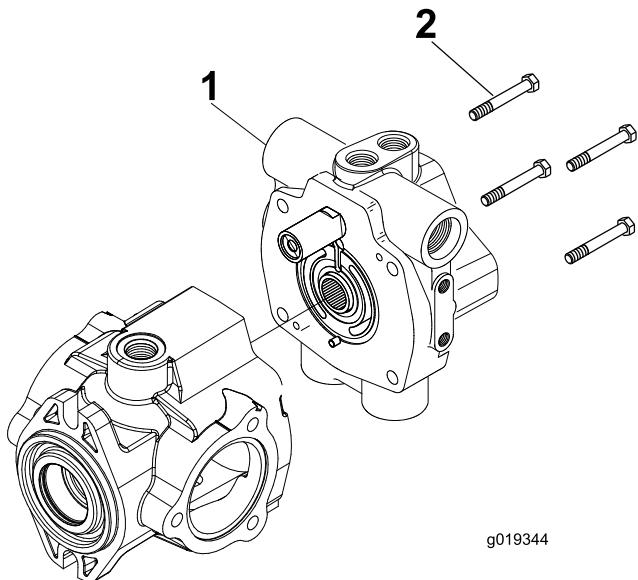

Figure 2
9. Remove the (4) capscrews that secure the piston pump back plate to the piston pump assembly (Figure 2). Carefully slide the pump plate back plate off the alignment pins and away from the piston pump.